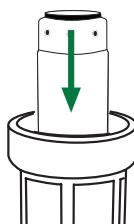

Figure 7
- 9** Place filter into housing. Align housing to filter head and screw it onto filter head. Hand tighten until snug and tighten with wrench to seal. DO NOT OVER-TIGHTEN. (See Figure 7).